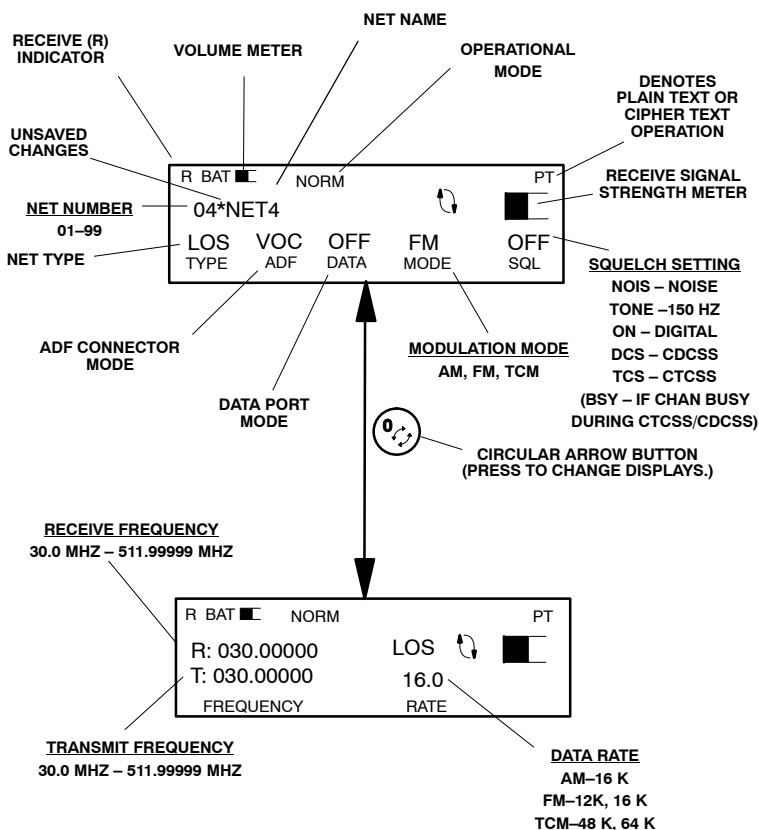

Figure 12. LOS Fix Frequency Operational Displays, Receive
Ensure antenna is installed for proper band or mode of operation. Refer to Table 14. See Figures 12 and 13 for receive and transmit displays.
- b. See Figure 12. Turn on the radio and set the function switch to **CT** and select a net preset that has been configured for HPW LOS. It should contain the following programmed parameters: